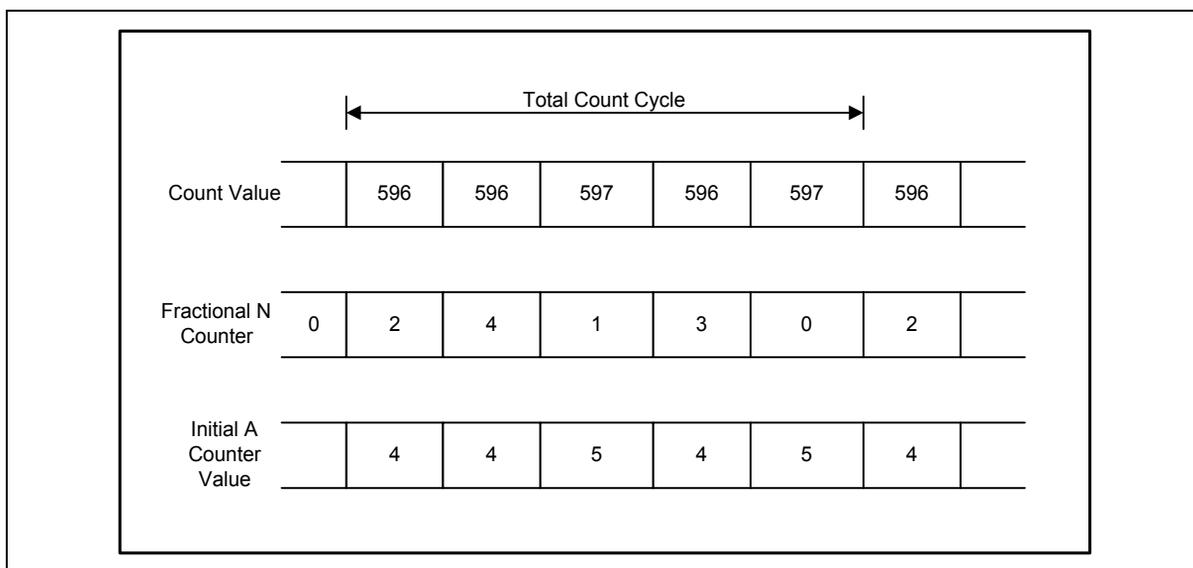

Figure 11 - UHF Synthesizer - Fractional N Operation
An example is shown in figure 11 for a divide ratio of $596 + 2/5$. The values for M, A, B are calculated using the integer value (596) as in the previous example. The fractional denominator is programmed as 5 and the fractional numerator as 2. At the end of the first count cycle (596) the fractional counter is incremented to 2. At the end of the third count cycle the fractional N counter overflows, incrementing the A counter by 1 which gives a subsequent count cycle of 597. After five count cycles the sequence repeats with a total count of 2982 over the five count cycle giving a mean value of $596 + 2/5$.